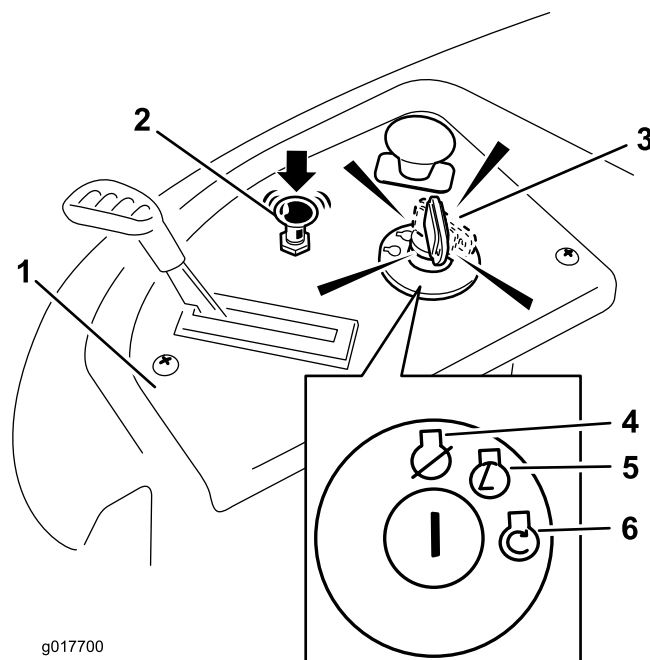

Figure 14
5. Turn the ignition key to Start to energize the starter. When the engine starts, release the key (Figure 14).
6. After the engine starts, push down on the Choke control (Figure 14). If the engine stalls or hesitates, pull up on the Choke control and let the engine run for a few seconds. Then push down on the Choke control. Repeat this as required.
4. Turn the ignition key to **Off** (Figure 14) and remove the key.